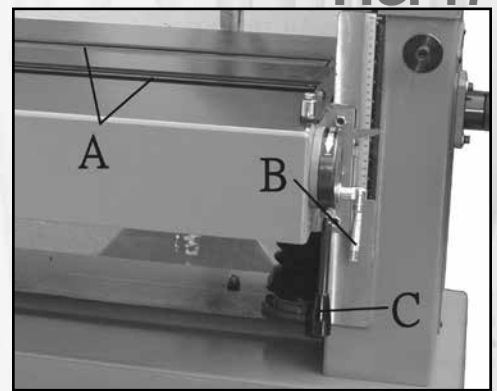

FIG. 17
TABLE ROLLS (Fig.17)
1. To raise the table rolls, loosen lock lever (B) as illustrated in Fig.17 and pull control lever (C) upwards to the required height setting.
2. To lower the table rolls, loosen locking lever (B) and push the control lever (C) downwards to the required height setting.
3. After adjusting height of the table roll, tighten the lock lever (C) in order to lock in position.